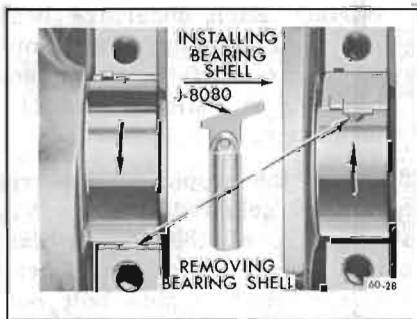

Figure 60-28—Removing and Installing Crankshaft Bearing Upper Shell
7. Remove upper bearing shell by inserting Bearing Shell Remover and Installer J-8080 in oil hole in crankshaft. Then slowly rotate crankshaft so that tool rotates the shell out of place by pushing against end without tang. See Figure 60-28.
11. Rotate bearing shell into place as far as possible by hand, then insert Installer J-8080 in crankshaft oil hole and rotate crankshaft to push shell into place. See Figure 60-28.